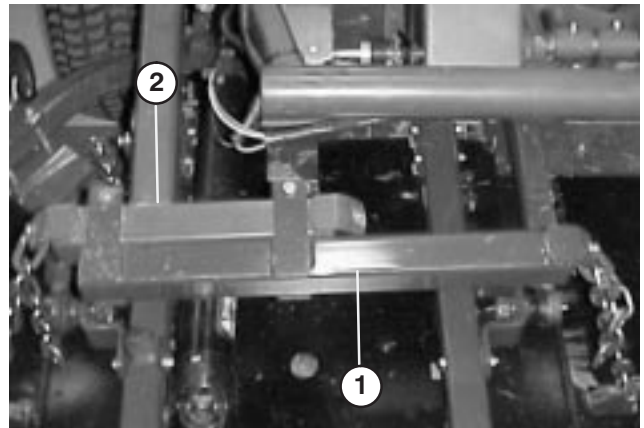

Figure 11
2. Slide front lift arm onto traction unit t-bar, positioning as shown in figure 11.
3. Secure front lift arm to t-bar with (2) capscrews and locknuts.